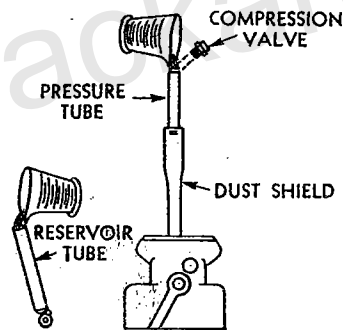

Fig. 59—Rear Units on the 1803 and 1806 Cars Must be Removed From the Car and Disassembled for Refilling
**Refilling**—Method of refilling is as follows: Clamp bottom eye of unit in vise and pull top eye out to fully extended position, Fig. 59.
Holding pressure tube in vertical position with piston at top center position as shown in Fig. 59, fill pressure tube to within  $\frac{1}{4}$  inch of top. Tap the compression valve into place. Pour the remainder of the fluid into the reservoir cylinder and assemble the unit but before doing so be sure to install a new guide gasket "P"—dipped in fluid, under the rod guide.